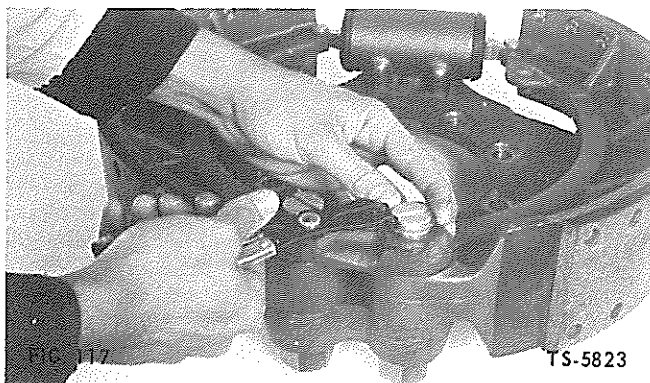

FIG. 117
5. Install anchor pin strut on anchor pins after both shoes are installed; install anchor pin retaining ring (Fig. 117).